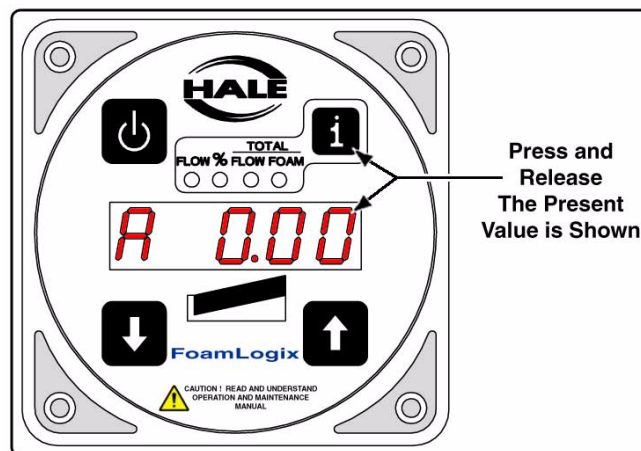

Figure 4-9: Foam Pump Feedback Calibration, Tank “A” Shown
2. The display shows **A x.xx** for Tank “A”, or **B x.xx** for Tank “B” for the total volume of foam concentrate pumped during the last calibration run. (See Figure 4-9: “Foam Pump Feedback Calibration, Tank “A” Shown.”)